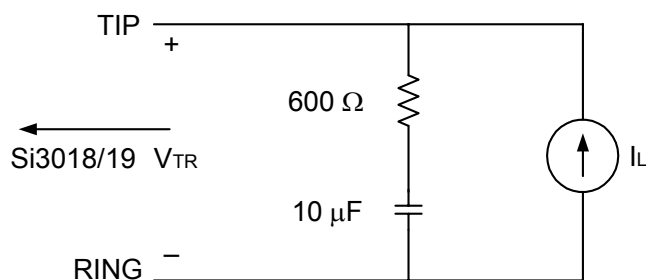

Figure 1. Test Circuit for Loop Characteristics
($V_D = 3.0$ to 3.6 V, $T_A = 0$ to 70 °C for K-Grade, see Figure 1 on page 6)
1. Measured at TIP and RING with $600\ \Omega$ termination at 1 kHz, as shown in Figure 1 on page 6.